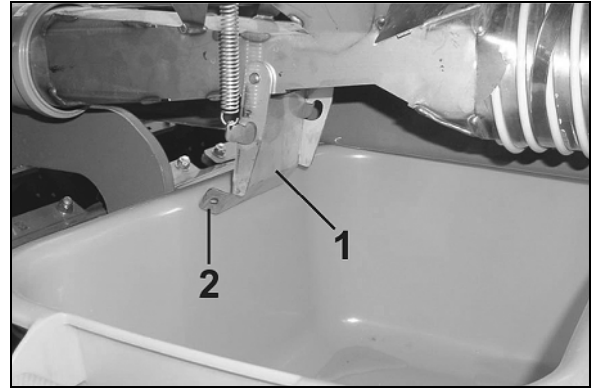

Fig. 123
4. Open the injector sluice flap (Fig. 123/1) to allow the seed to flow into the seed collection trays.
**Danger of squeezing when the injector sluice flap (Fig. 123/1) is opened or closed!**
**Only hold the injector sluice flap on its strap (Fig. 123/1). Otherwise danger of injury when the sprung loaded flap will bang.**
**Never hold your hand between injector sluice flap (Fig. 123/1) and injector sluice!**